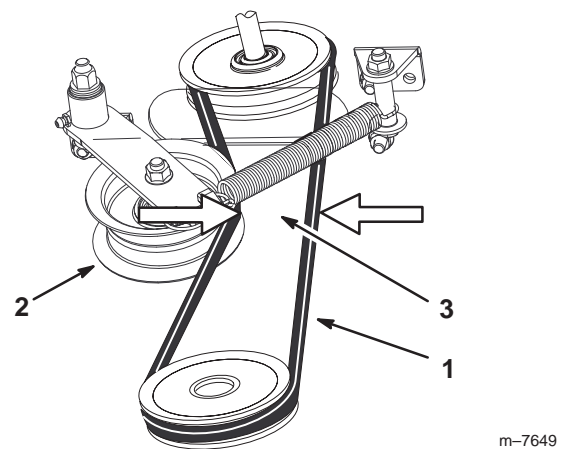

Figure 17
1. With the bagger belt tensioned, measure the gap as shown in Figure 17 at the tensioner pulley (Fig. 17). The gap must be 1–3/4 to 2–1/8 inches. If the gap is not between 1–3/4 and 2–1/8 inches, proceed to the next step.